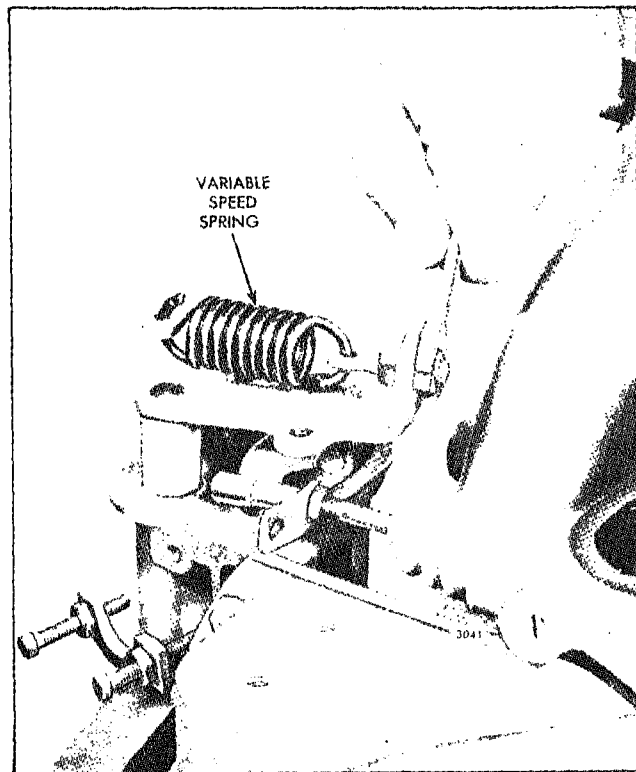

Fig. 2 - Adjusting Governor Spring Eye Bolt
1. Adjust the variable speed spring eye bolt until $1/8''$ of the threads project from the outer lock nut (Fig. 2).